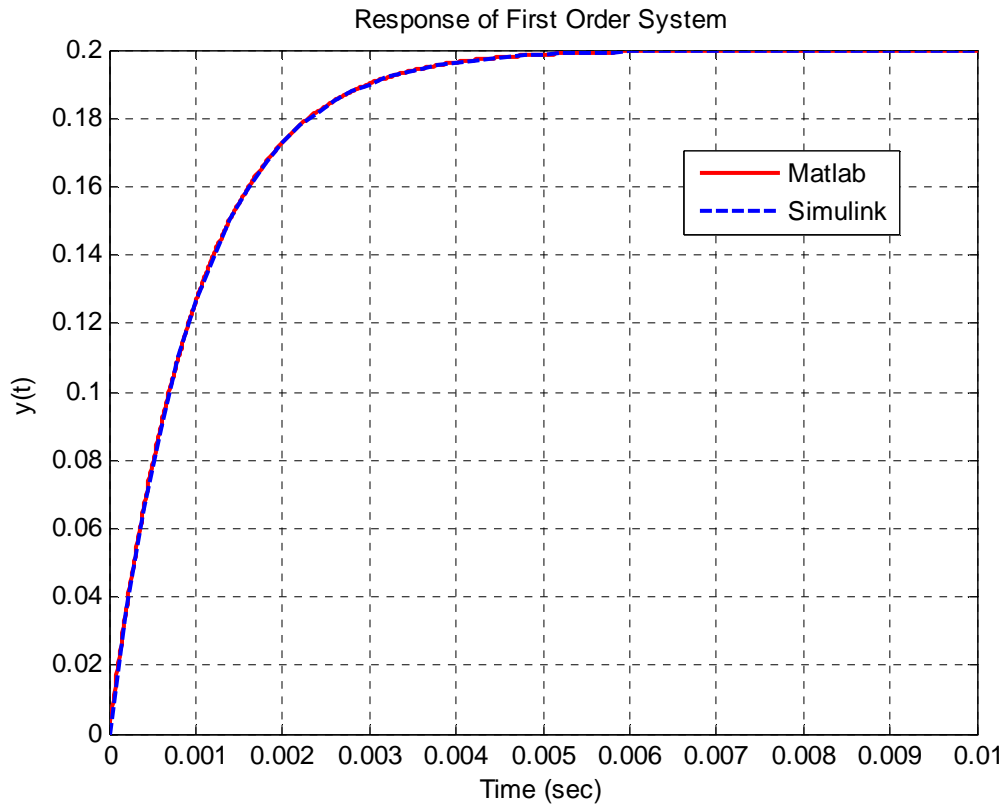
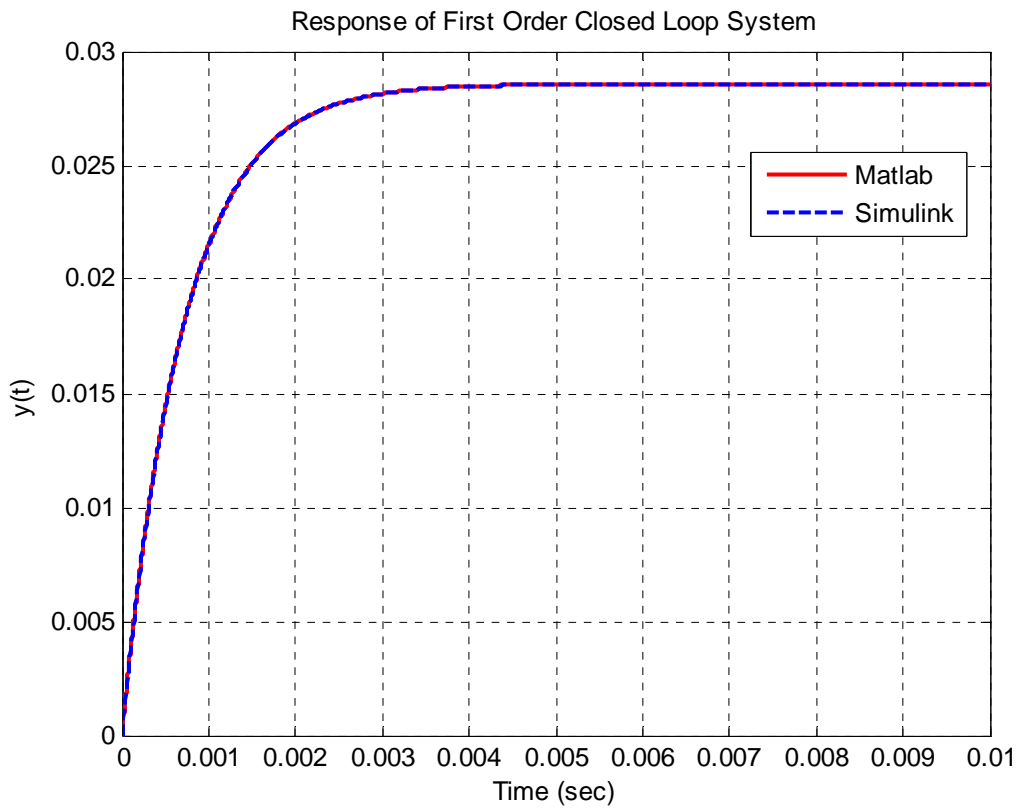

Figure 2. Open loop response of first order system to a step of amplitude 0.1
Figure 3. Closed loop response of first order system to a step of amplitude 0.1 using a proportional controller with a proportionality constant of 0.2
10) Figure 2 shows the open loop response of this system you determined last week. Your closed loop response should look that that shown in Figure 3. (Note that I have really plotted more than one graph in this figure, which you will do shortly.) If you compare these two figures, you should note two things: